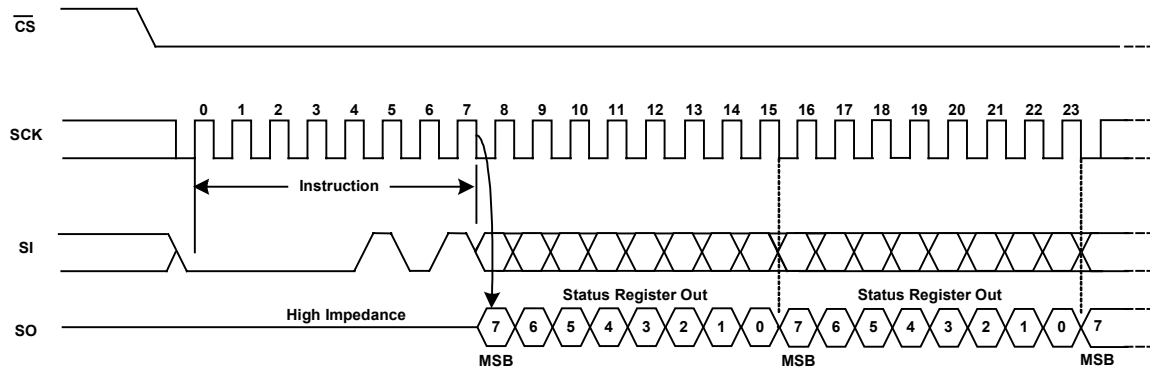

Figure 10. Read Status Register (RDSR) Instruction Sequence
3. The data from the status register is shifted out on the SO pins, with the D7 bit first and the D0 bit last, as shown in Figure 10.